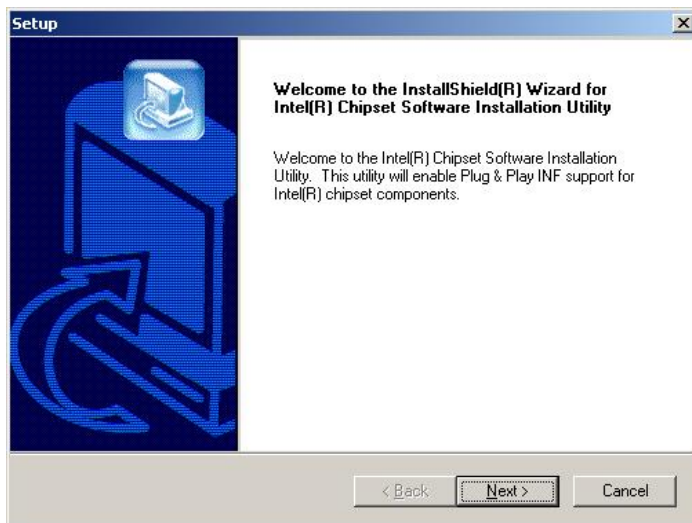

Figure 7-2: Welcome Screen
Step 4: The “Welcome” window in Figure 7-2 appears next.